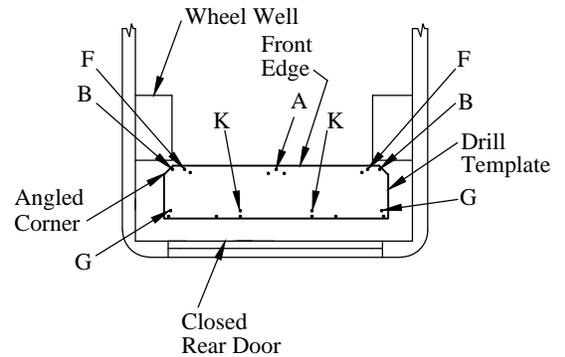

Figure 6: Drill location (top view).
14. **Drill** 3/8" holes in nine (9) locations in the template. Drill "A", "B", "F", "G", and "K" locations only, skip all others (Figure 6). Insert a 3/8" bolt into each hole as it is drilled to maintain hole alignment and template position.